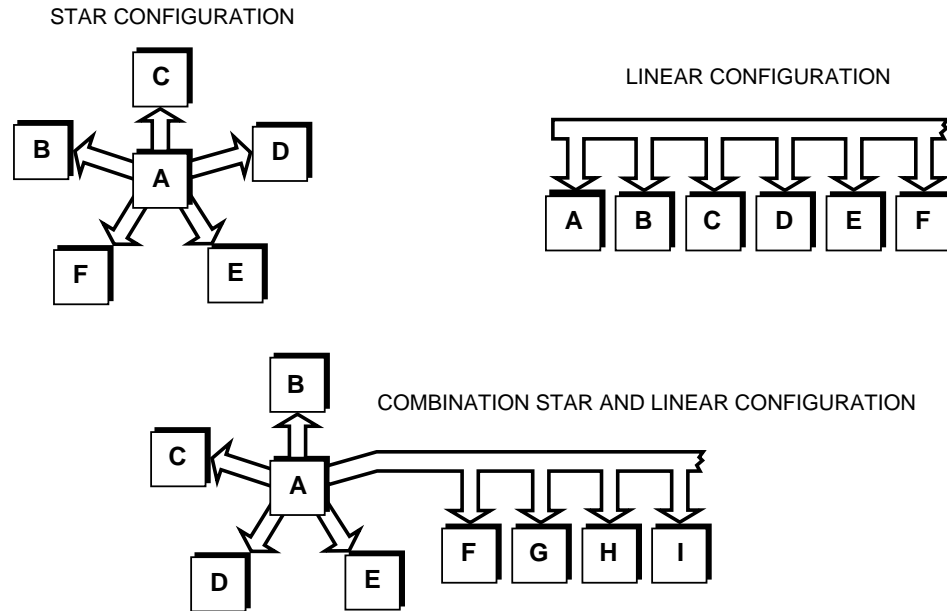

Figure 1-5. GPIB devices may be connected in star, linear, or combination star/linear configurations
- Devices may be connected in a star or linear configuration (see Figure 1-5), or a combination of star and linear configuration.